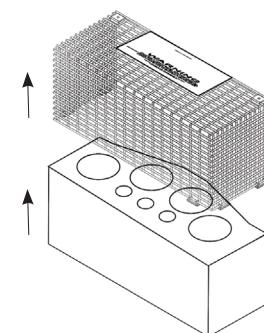

Figure 02— Remove Protective Foam
- Pull the Tube Cover slightly outward from the center of the MC901 to clear the lip covering the top edge of the Tube Cover, and then lift upward (Figure 02)
- Pull the protective foam straight up off the Vacuum Tubes (Figure 02)